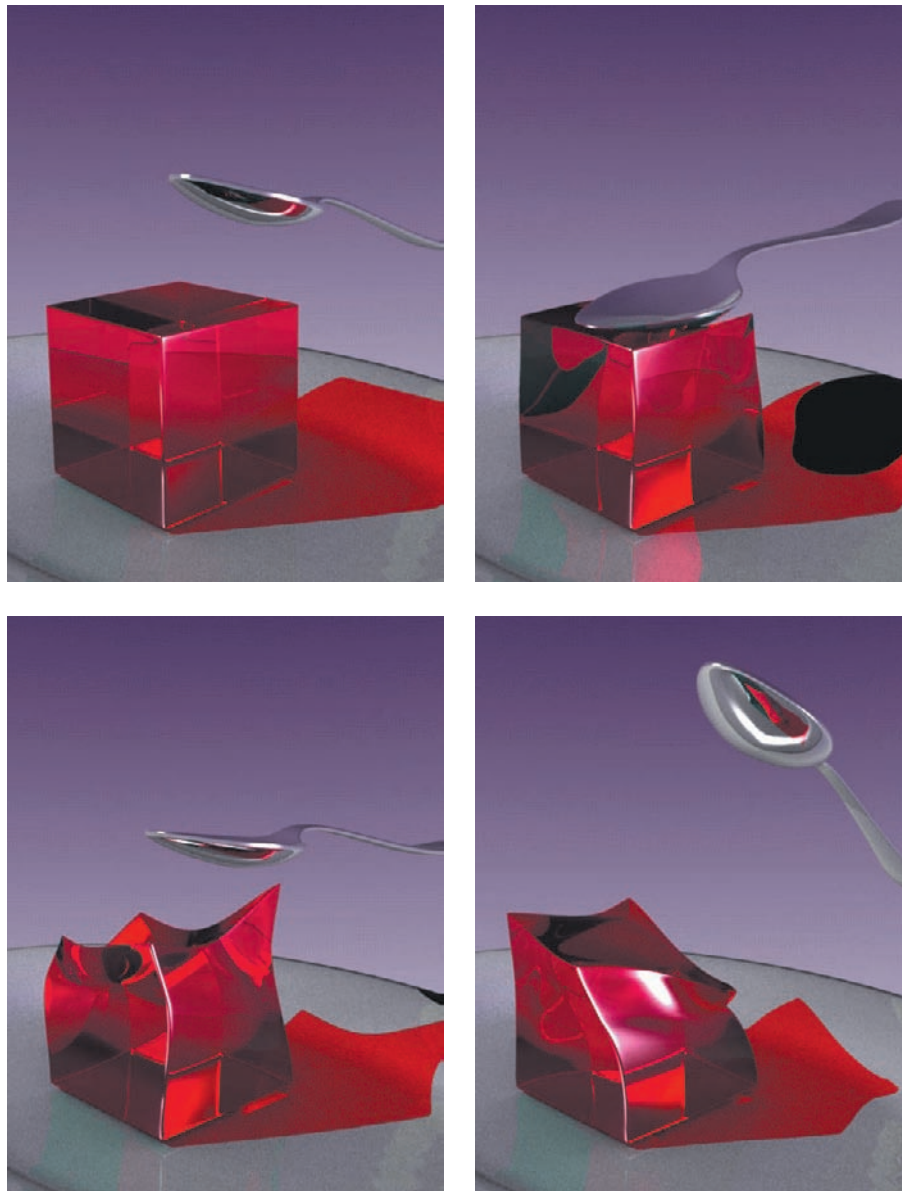

Figure 3.59 Final rendered animation of soft body gelatin
7. When you're satisfied with your keyframes, select the lattice and run the animation. As you can see from the rendered stills in Figure 3.59, the soft body gelatin behaves as it should.